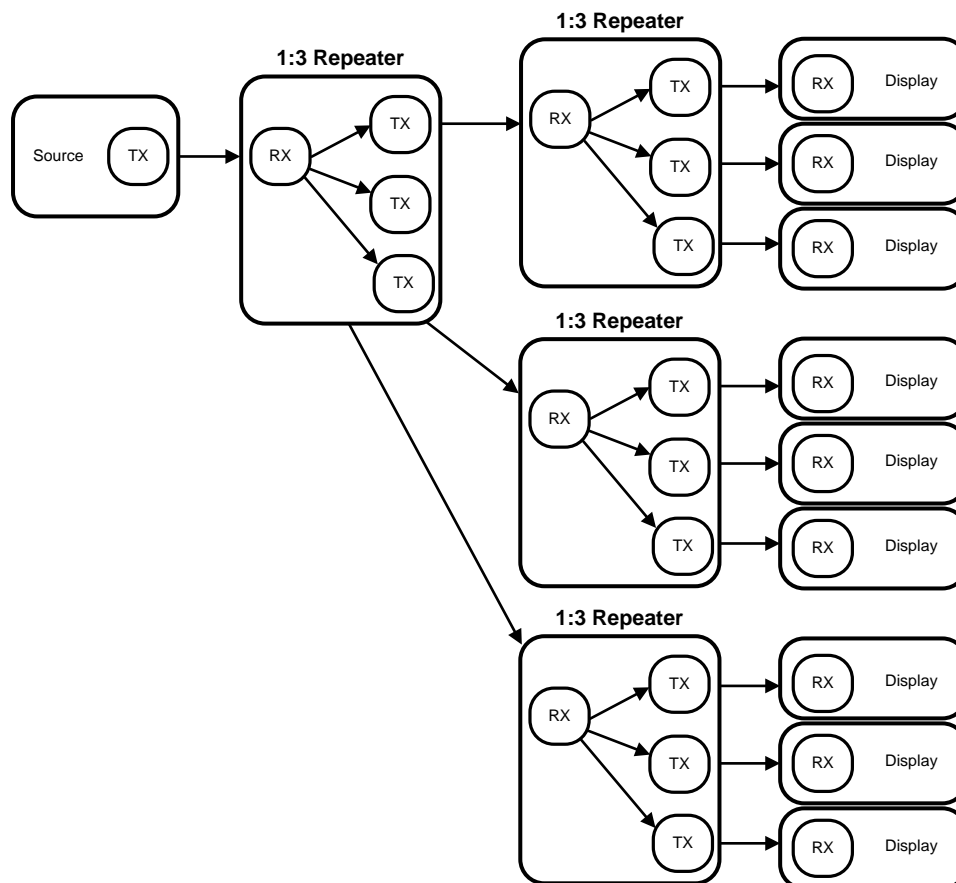

Figure 16. Maximum Repeater Application
In the repeater application, in this document, the DS90UB925Q-Q1 is referred to as the Transmitter or transmit port (TX), and the DS90UB926Q-Q1 is referred to as the Receiver (RX). Figure 16 shows the maximum configuration supported for Repeater implementations using the DS90UB925Q-Q1 (TX) and DS90UB926Q-Q1 (RX). Two levels of Repeaters are supported with a maximum of three Transmitters per Receiver.